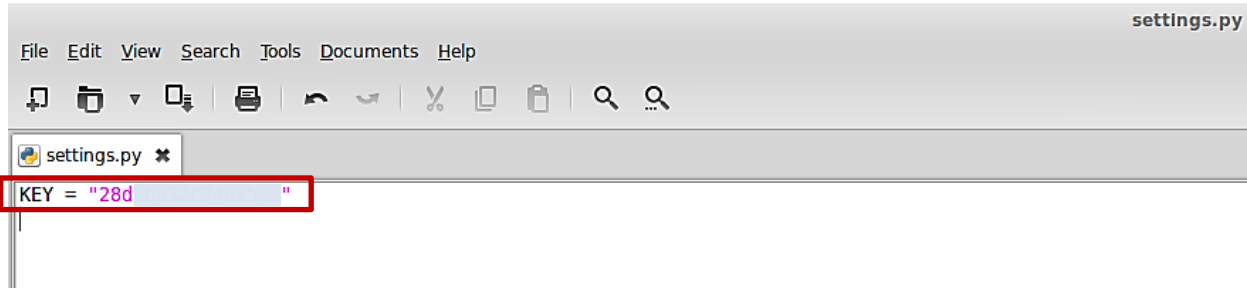

Figure 23: Entering the WeatherUnderground Developer Key
3. Enter the key, as shown in Figure 23: